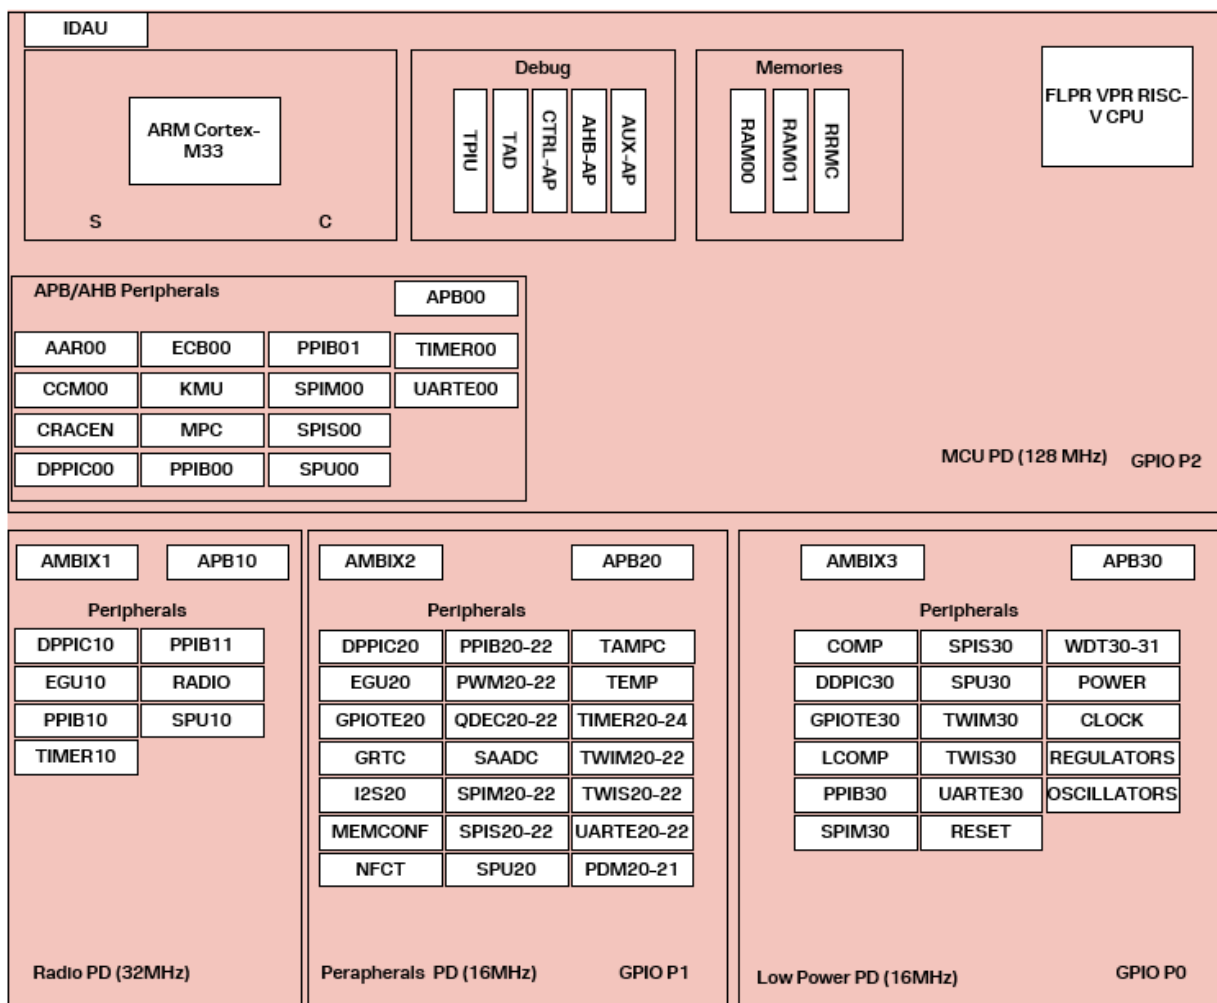

Figure 2: Power domains
NORA-B2 features multiple Power Domains (PD) for low-power operation, including fast MCU and lower speed domains. Figure 2 shows the power domains supplying the integrated ARM Cortex processor, peripherals, and other functional units supported in NORA-B2, which feature:
Three of the power domains have their own GPIO ports. The GPIO pins can be used by peripherals in the same power domain. Several port2 pins, **P2.00-P2.10**, can be used for selecting serial interfaces in the peripheral domain, as described in Table 8. For information about each instance power domain and the related GPIOs, see Figure 2 and Table 6.
The 4-wire UART interface supports hardware flow control with baud rates up to 4 Mbps. Up to five instances can be defined. For information about each instance power domain and the related GPIOs, see Figure 2 and Table 6.